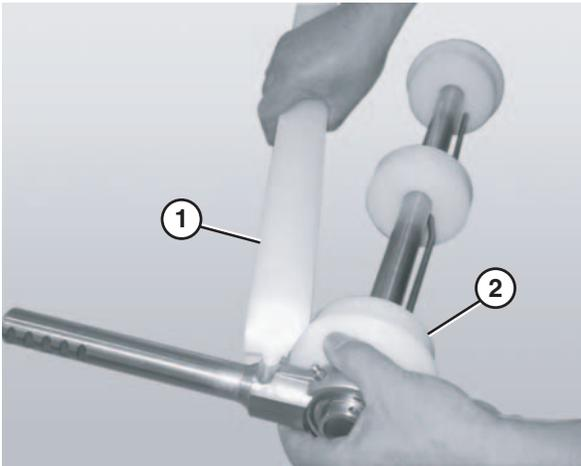

Figure 74
6. Remove the guard bar (**Figure 74, item 1**).
7. Remove the pucks (**Figure 74, item 2**).